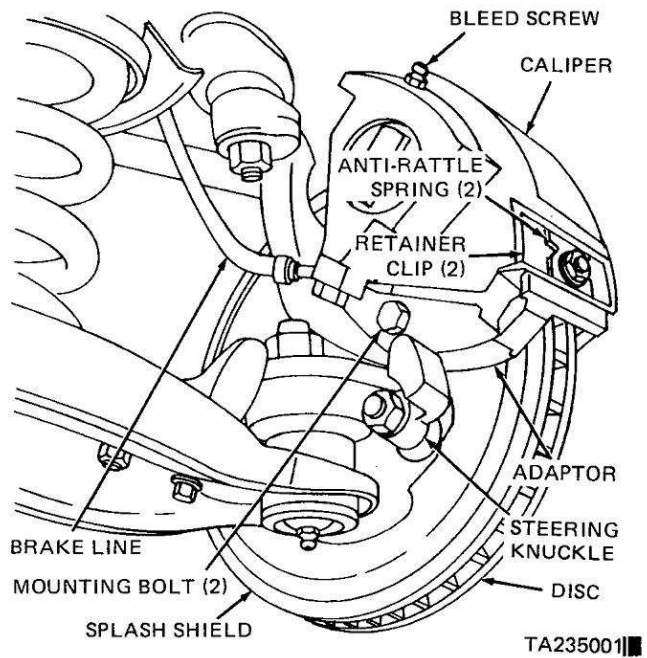

Figure 2-75. Disc Brakes.
a. *General.* The single-piston, sliding-caliper disc brakes consist of a one-piece nut and disc assembly, the caliper, the pads and linings, the splash shield, and the adapter as shown in figure 2-75. The cast-iron braking disc has cooling fins between the two machined braking surfaces.